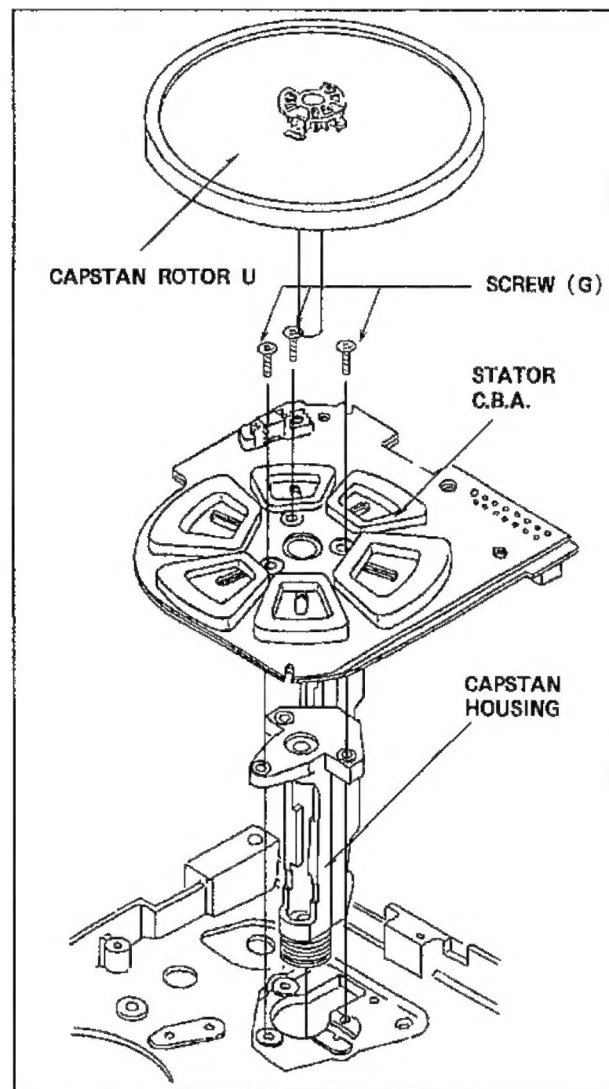

Fig.M6
3. Unscrew 3 screws (G) and remove the Capstan Stator Unit as shown in Fig.M6.